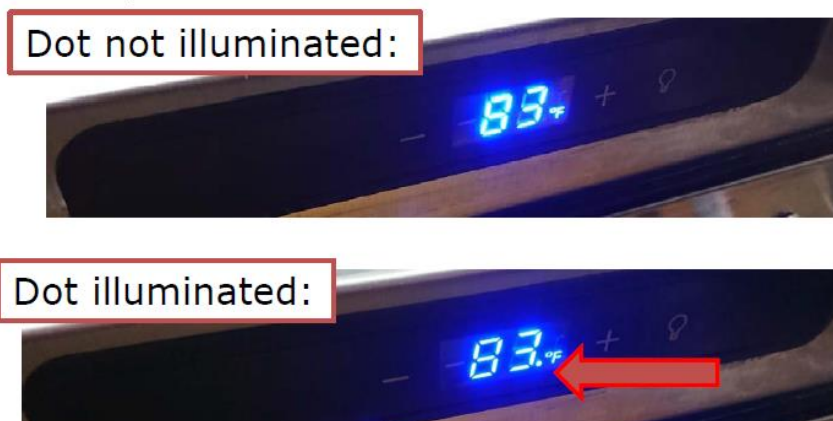

Figure 66: Compressor on/off indicator shown.
- i. Unplug the unit and plug it back in, note that there is a 5-minute delay (to protect the compressor from short cycling). If the refrigerator is calling for cooling, there will be a small blue dot illuminated on the display. The compressor should be running if the dot is illuminated. **See Figure 66.**